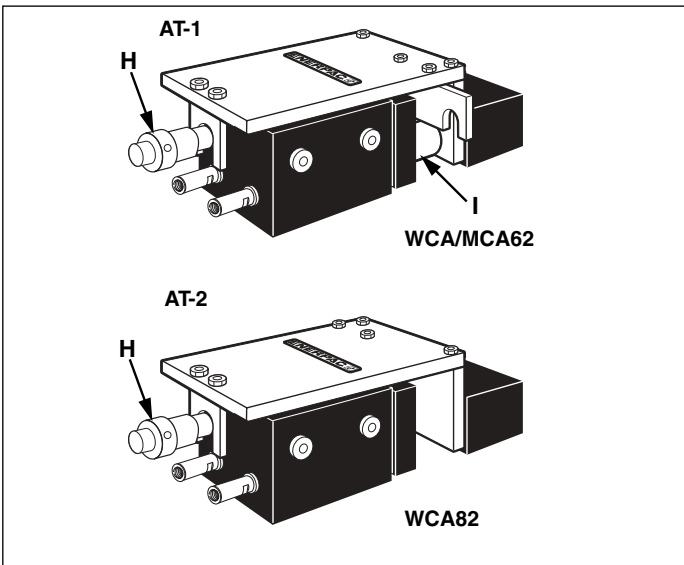

Figure 3, Set-up and Mounting of Auto Coupler Using Alignment Tool
- b) Place alignment tool on top of base station. Center the tool over the extended plunger (H) at the rear of the base station and over one of the two extended guiding pins at the front of the station. See Figure 3.
1. The AT1/AT2 alignment tool is recommended for location of the base station. See Figure 3.